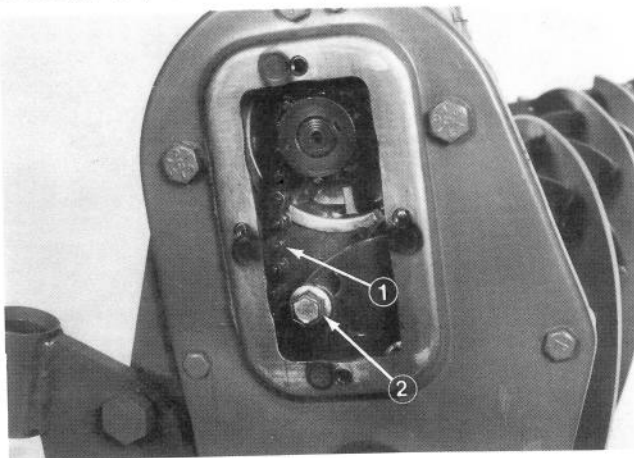

Figure 15
13. Check chain tension (Fig. 15). Chain should have zero to 1/8 in. (0 to 3 mm) deflection when properly adjusted and should be retensioned when deflection exceeds 3/8 in. (10 mm). Rotate reel while checking to ensure all portions are within specification. If tension is correct, proceed to step 17. If tension is incorrect, proceed to step 14.
14. Loosen idler mounting capscrews (Fig. 15). Rotate the reel by hand watching for the sprocket position where the chain tension is tightest. At this point make a final Idler adjustment, for chain deflection.